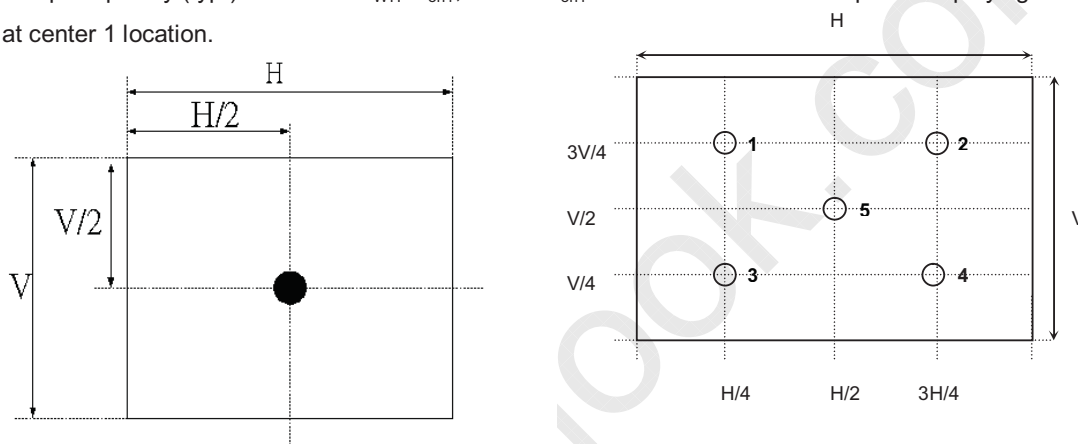

Fig.4-2 Optical measurement point
2. Surface luminance is luminance value at point 5 across the LCD surface 50cm from the surface with all pixels displaying white. From more information see Fig. 4-2. When $V_{BL} = (1747V)$, $I_{BL} = (104mA)$. Lamp frequency (typ.) = 62 KHz. $L_{WH} = L_{on1}$, Where L_{on1} is the luminance with all pixels displaying white at center 1 location.